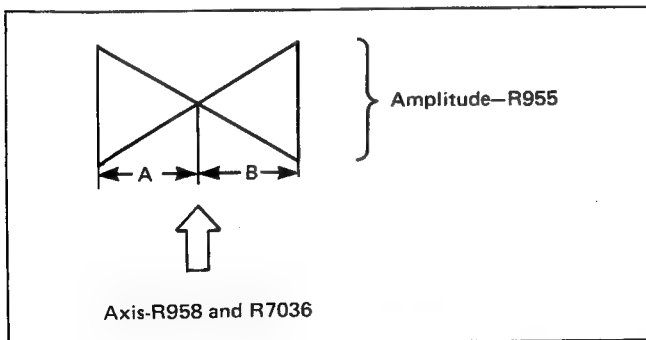

Fig. 22
- 4) Adjust R955, R958 and R7036 to achieve maximum amplitude and confirm that both side of the bow tie pattern are symmetrical (A, B in Fig. 22).